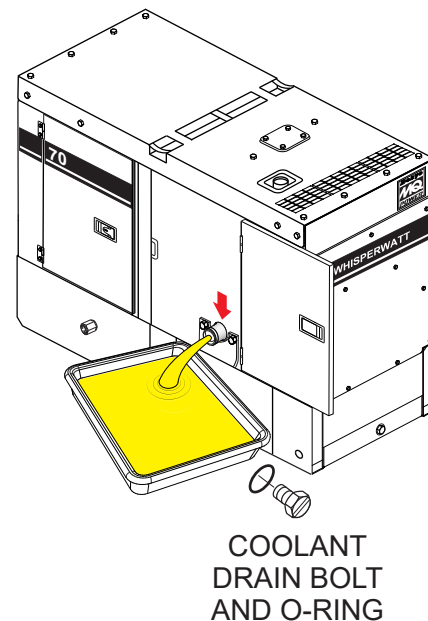

Figure 71. Draining Radiator Coolant
2. Open the cabinet door and remove the coolant drain bolt and O-ring (Figure 71), then allow the coolant to drain into a suitable container.